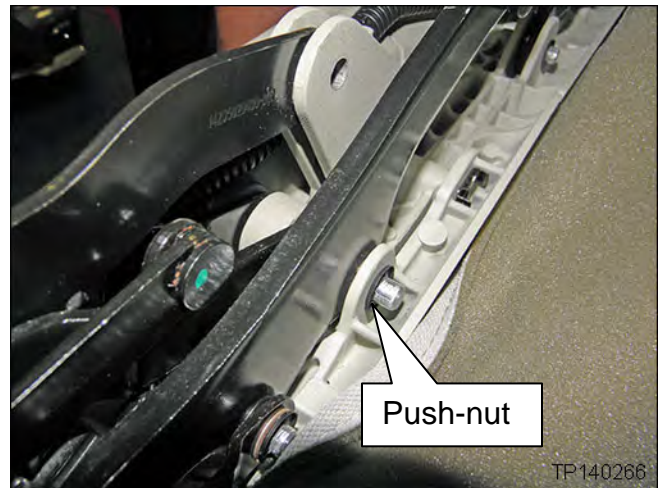
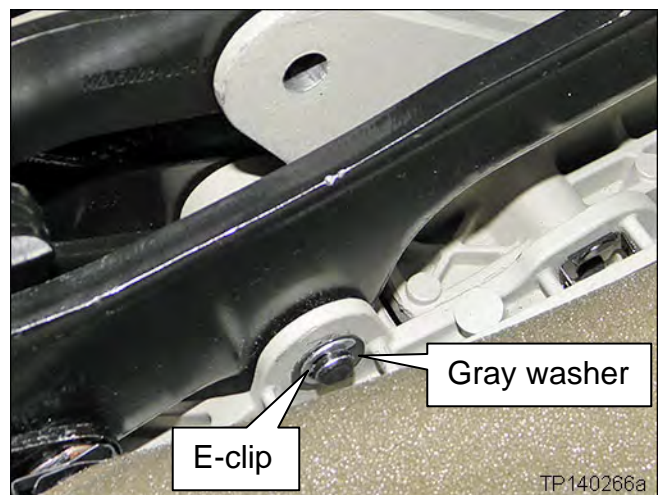

Figure 32
Figure 33
**NOTE:** During removal, you may find this pin has a push nut as shown in Figure 32, or an E-clip with gray colored washer as shown in Figure 33.
**For Reassembly,** make sure to install the new pin with gray colored washer and E-clip as shown in Figure 33.